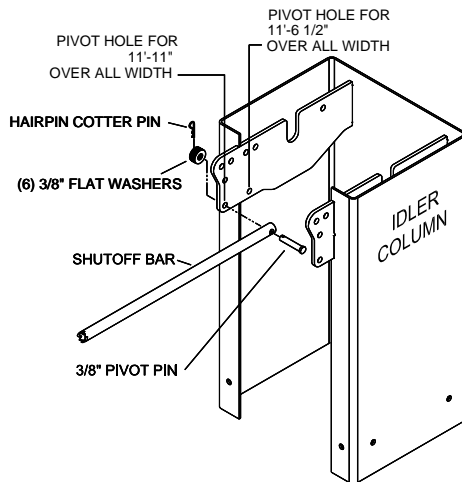

**Fig 4 – Overhead Assembly**
- 13) Before raising overhead into position install 4 each (2 per column) hex flange bolts and nuts in middle hole of column extension (**see Fig 4 Installation Aid**) for temporary support of overhead. Lift overhead assembly up into position and install with 8 each (4 per column) 3/8-16 x 3/4" lg hex flange bolts and hex flange nuts per side as shown in **Fig 4**.